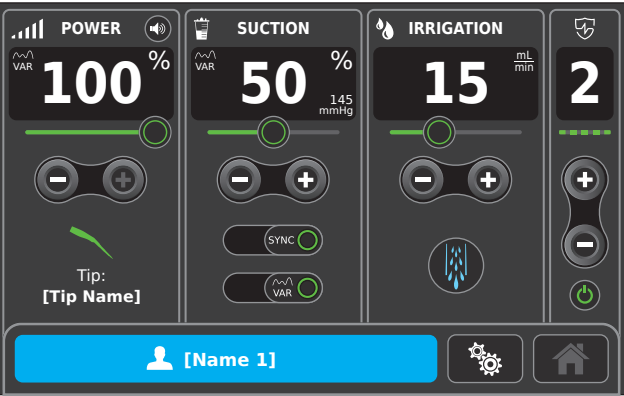

Figure 57 – Preset Selection
1. From the SYSTEM SETUP screen or HOME screen, touch the PRESET roll-up button (Figure 57).